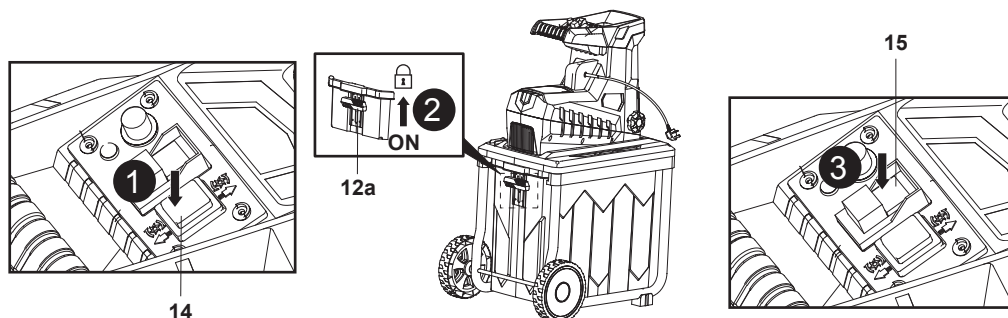

Fig. 10
1. Cut down the damp / wilted garden waste to a manageable size after it has been stored for several days before feeding into the feeding funnel (2).
2. Ensure the forward/reverse switch (14) is on forward position “↓” and the interlock switch (12a) is on its position “ON” (Fig. 10, steps 1, 2).
3. Press the ON switch “I” (15) to switch the machine on (Fig. 10, step 3).